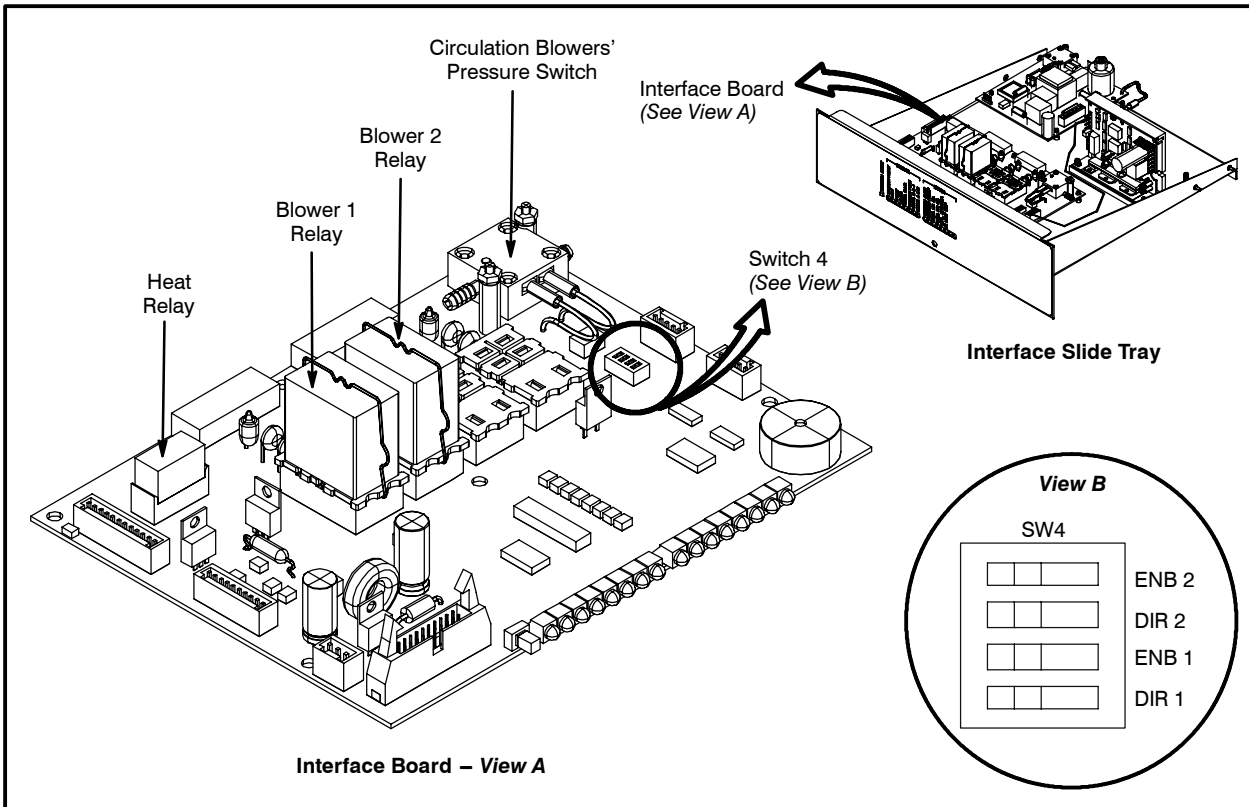

Figure 8
2. Flip the dipswitch marked DIR1 on SW4 (switch 4) on the interface board. See Figure 8.